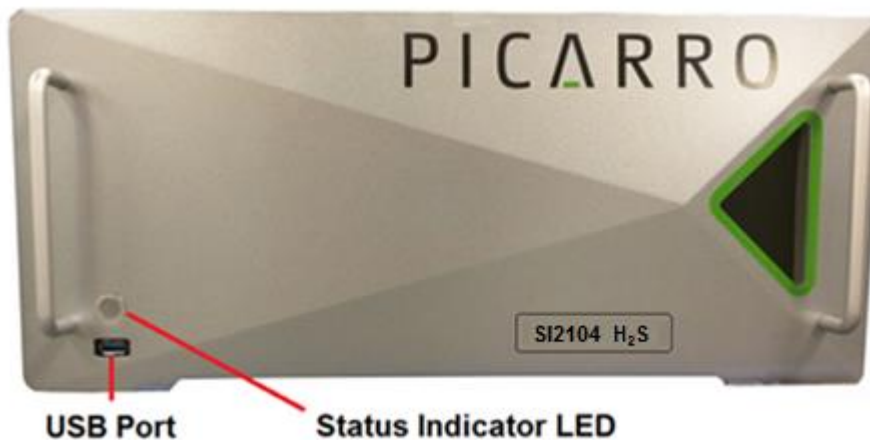
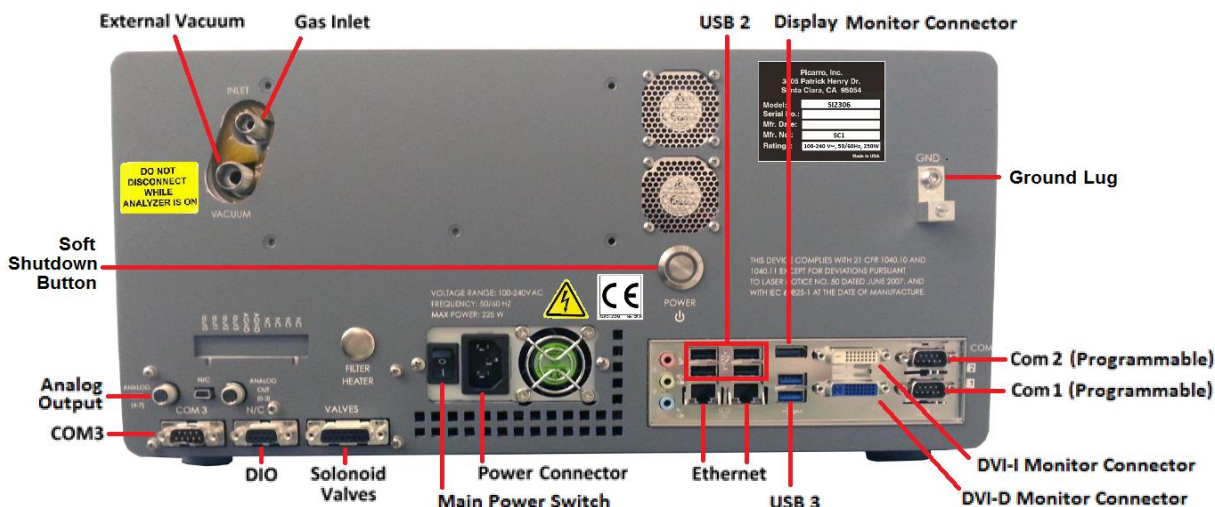
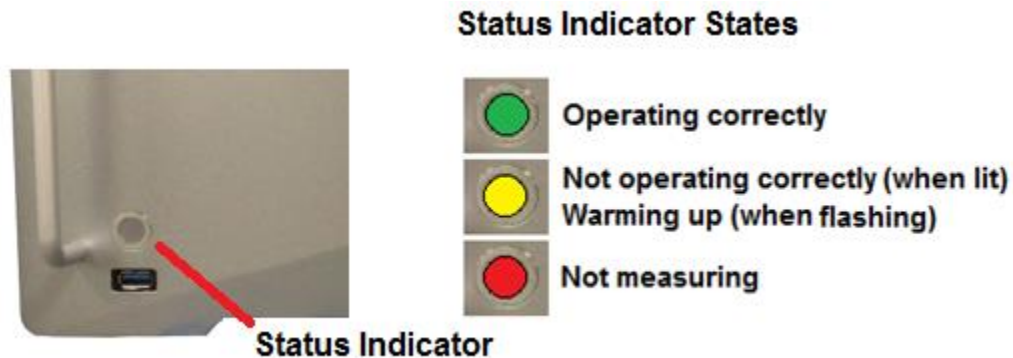
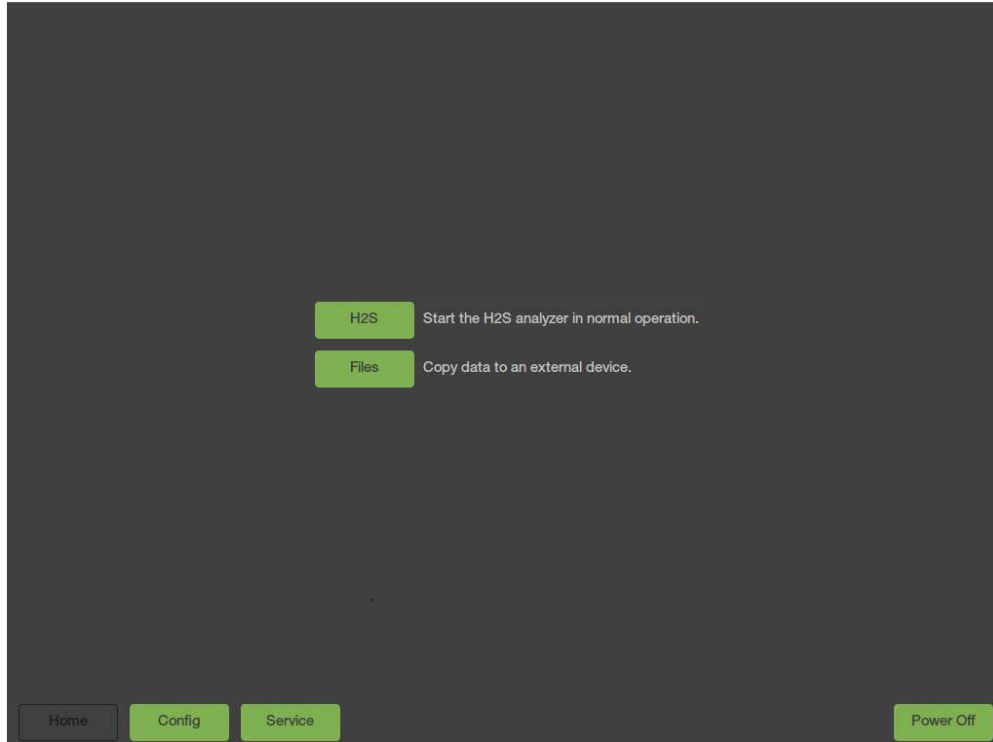

Figure 3: Analyzer Front Panel
Figure 4: Analyzer Back Panel
Figure 5: Status Indicator States
Figure 9: Opening Screen
Figure 3 shows the analyzer front panel and Figure 4 shows the analyzer back panel.
<p>CAUTION</p>	<p>Do not connect USB hubs or unauthorized USB devices (except flash drives, mice and keyboards) to the USB ports (Figures 3 and 4). Unauthorized USB devices may interfere with the analyzers functioning.</p>
The LED indicator on the front panel (Figures 3 and 5) shows the current operating state of the analyzer. Figure 5 shows and describes the status indicator states. The status states and colors are linked to the *System Alarm Panel* on the *CRDS Data Viewer Screen*. See Figure 9.
<p>Caution</p>	<p>Any light emitted from the Status Indicator, regardless of color or state, (Figure 5) indicates one or more lasers are on</p>
2. Switch on the main power to the analyzer (Figure 4).
The software starts automatically and the analyzer displays the opening screen. Figure 9.